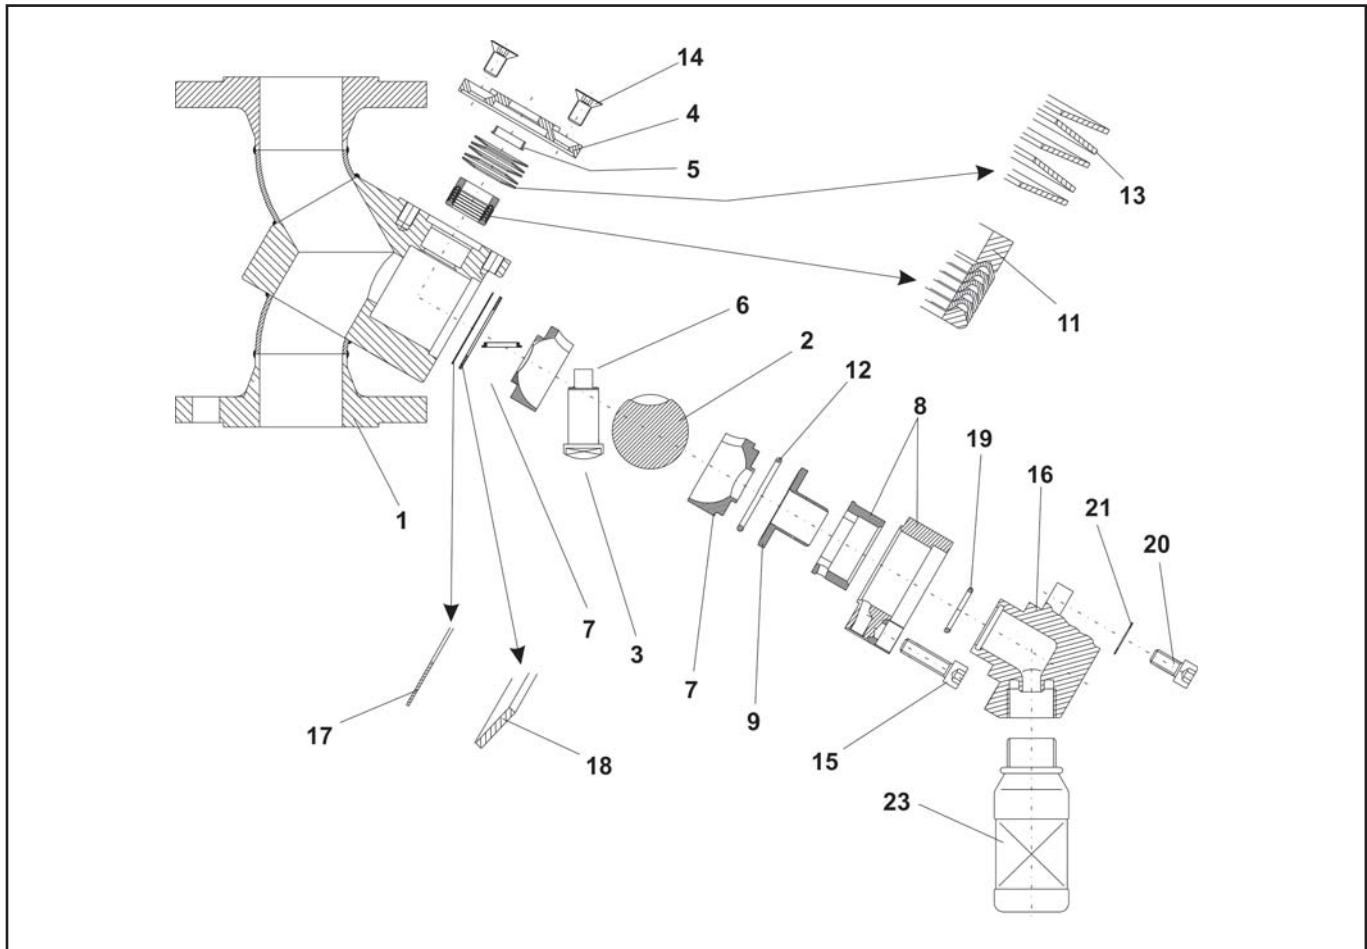

Fig. 3 - Explosion drawing of the sampling valve BR 27g
Note: The position and arrangement of the individual parts shown in (Fig. 3) must be observed when assembling the valve.
Place the seating ring (17) and the spring washer (18) in the body. The positioning of the spring washer is shown in the explosion drawing (Fig. 3)
For exact positioning and locating of the V-ring packing and spring washers, refer to the explosion drawing (Fig. 3).